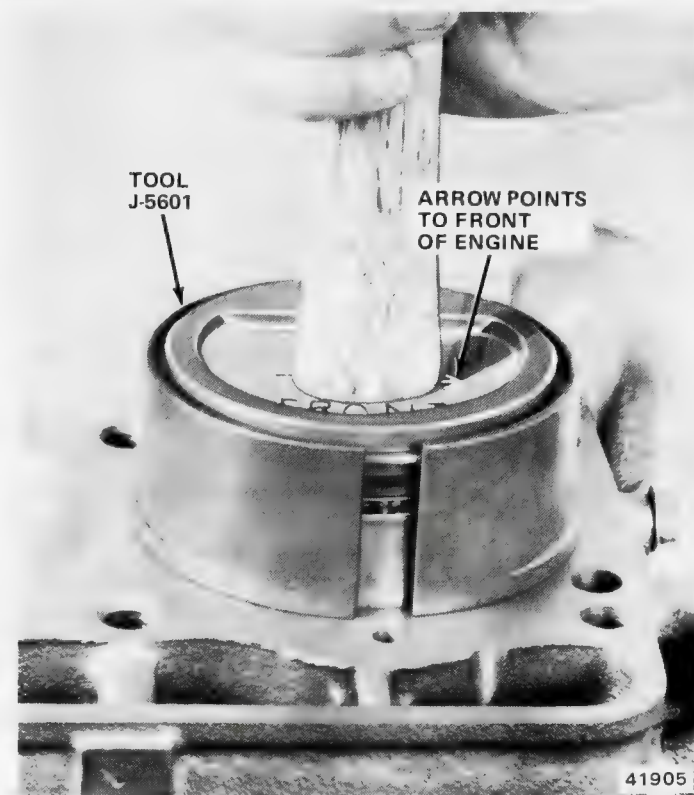

Fig. 1B-100 Piston Installation
(1) Clean cylinder bores thoroughly. Apply light film of clean engine oil to bores with clean, lint-free cloth.
(2) Install piston rings on pistons. Refer to Piston Rings for sequence.
- (3) Lubricate piston and rings with clean engine oil.
(4) Use Piston Ring Compressor Tool J-5601 to install connecting rod and piston assemblies from top of cylinder bores (fig. 1B-100).
(5) Install connecting rod bearing caps and inserts in same order as removed.
(6) Install oil pan using replacement gaskets and seals. Tighten drain plug securely.
- (7) Install gasket and cylinder head.
- (8) Install push rods.
(9) Install rocker arms and bridged pivot assemblies. Tighten capscrews for each bridge a turn at a time to avoid damaging bridge.
(10) Install cylinder head cover. Use replacement gasket or silicone rubber material.
(11) Fill crankcase with clean oil to specified dipstick level.